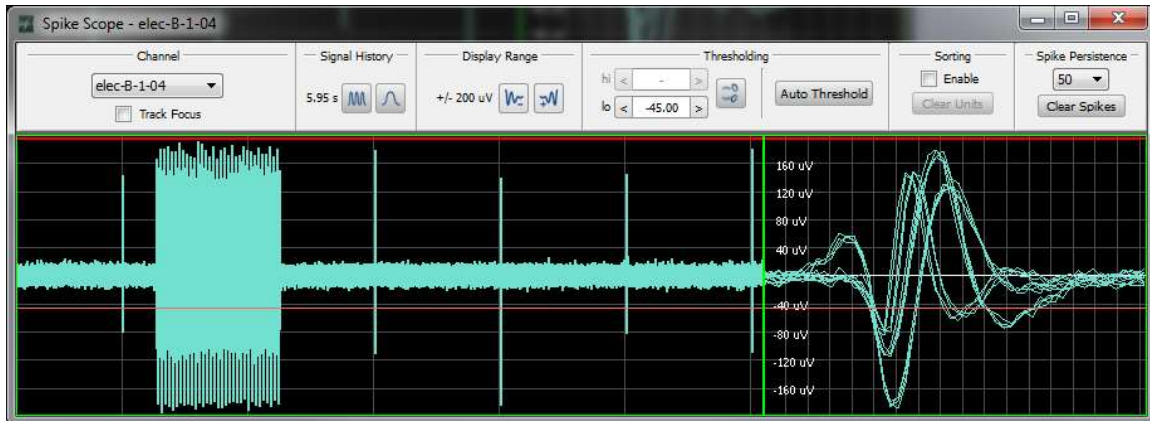

Figure 3-16 Trellis Applications – Spike Scope
2. Typing the desired threshold in the ‘hi’ or ‘lo’ threshold text fields (Figure 3-16).